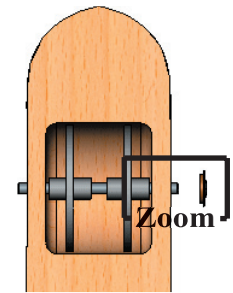

Fig. 34
Step 15. Use the **Zoom to Area**  in the View toolbar to drag a zoom window around the **end of front axle, washer and retainer**, Fig. 34. Click Zoom to Area  again or Escape to unselect Zoom to Area.